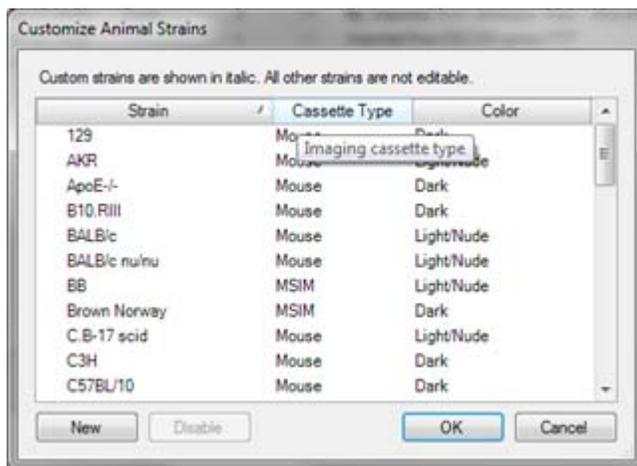

Figure 9-1. Customize Animal Strain window
1. On the TrueQuant main menu, select **Tools | Customize Animal Strains** to open the Customize Animal Strain window (Figure 9-1).